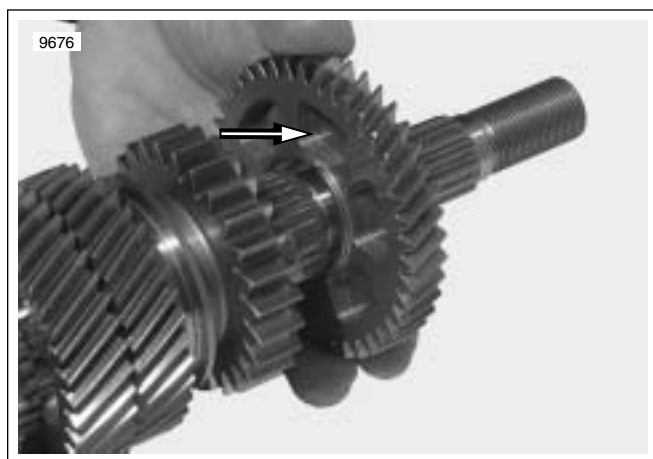

Figure 7-20. 2nd Gear Installation
2. See Figure 7-20. Install 2nd gear. Note 2nd gear pockets are installed toward the 5th gear engagement dogs.